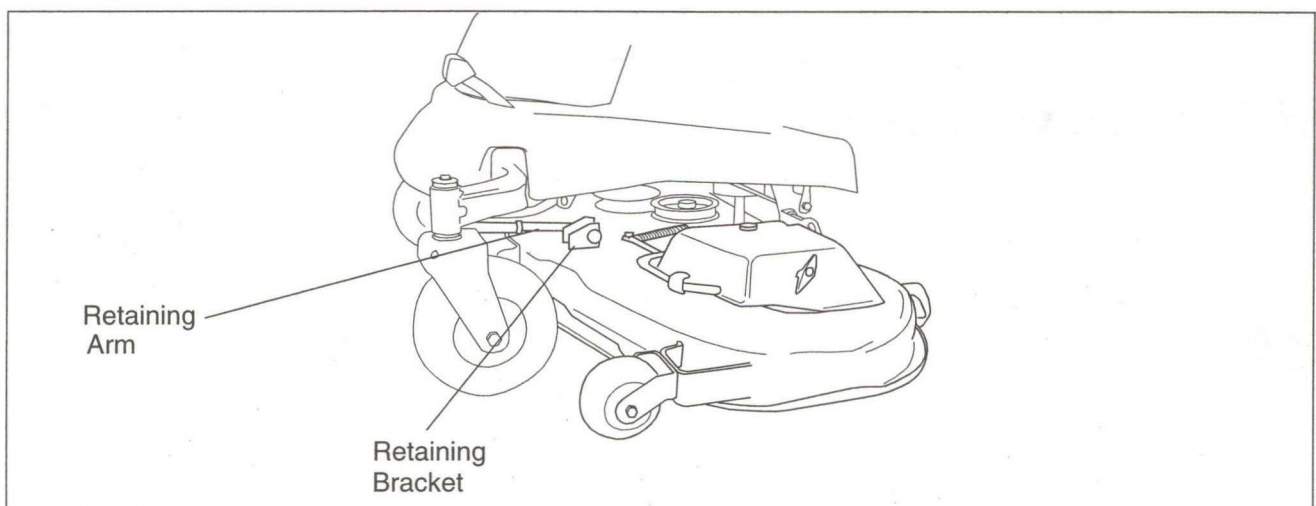

Figure 25
15. From the front of the Z-series, pull the mower deck towards you. This will release the retaining arms from the mower deck. (See Figure 25)